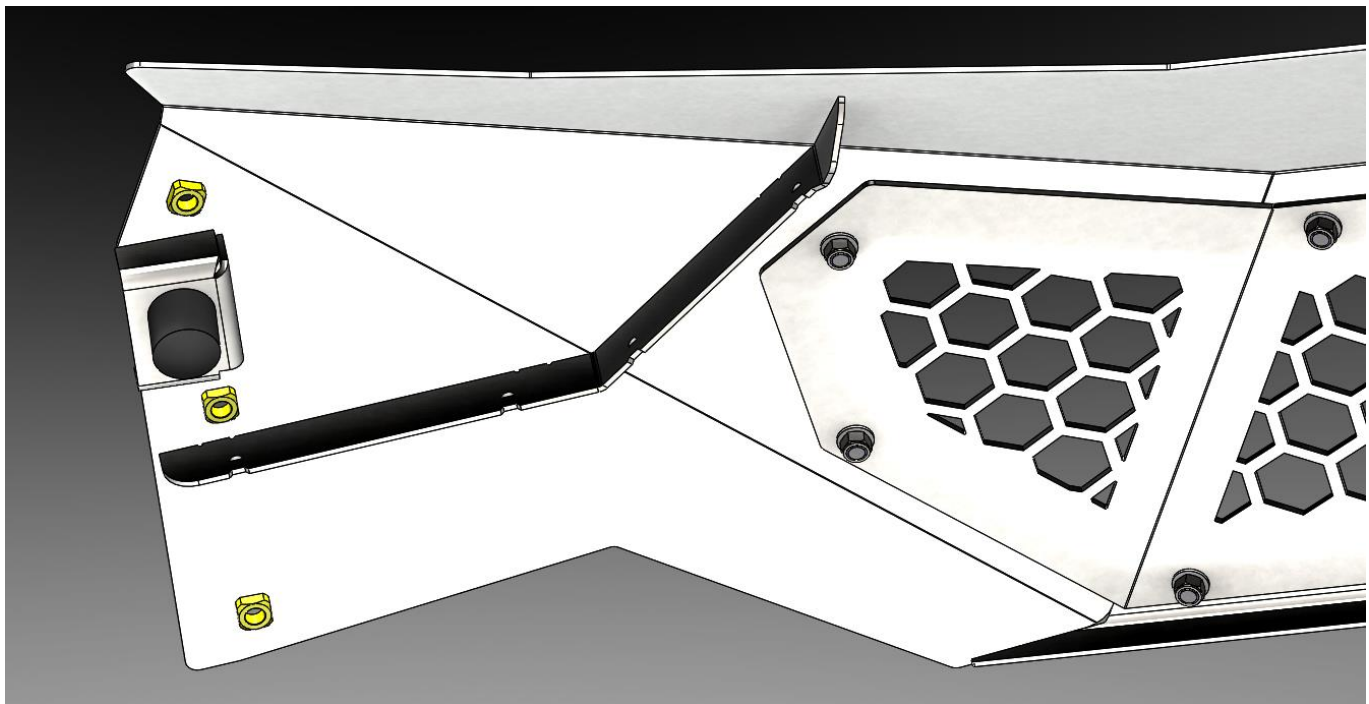

Fig 10
- a. Install and hand tighten the rubber bumpers and 1/2" flat washers to the visor as shown in **Fig 10**.